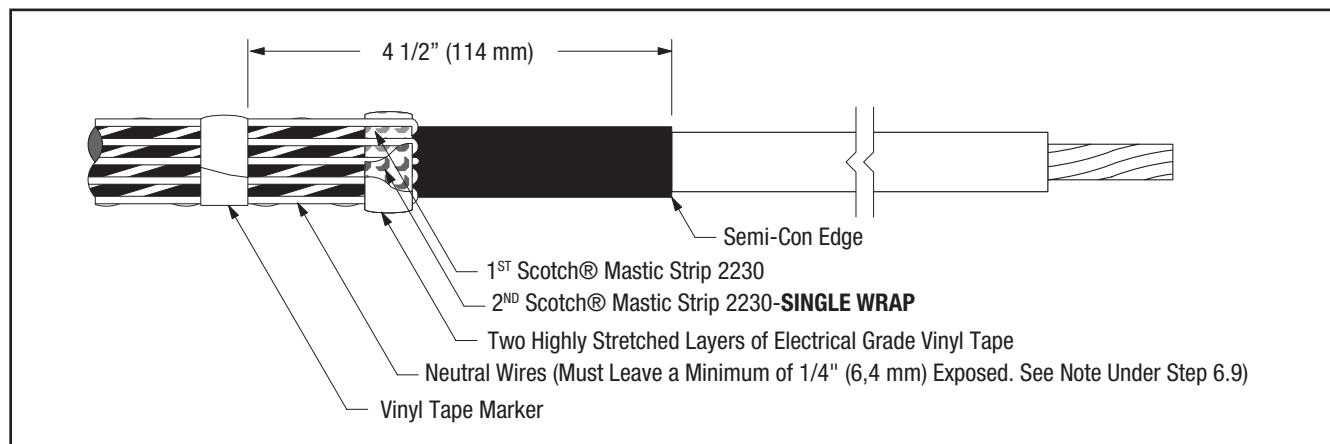

Figure 8
6.7 Bend neutral wires back over applied sealing mastic and secure to cable 4 1/2" (114 mm) from cable semi-con edge using vinyl tape (see NOTE and Figure 8).
6.8 Select second Scotch® Mastic Strip 2230 from kit and remove white release liners. Apply a second **SINGLE WRAP** of mastic over the neutral wires and previously applied mastic (Figure 8). Cut off excess.
6.9 Compress neutral wires into mastic by over-wrapping seal strips with two highly stretched layers of electrical grade vinyl tape (Figure 8). **Be sure to cover all exposed mastic.**